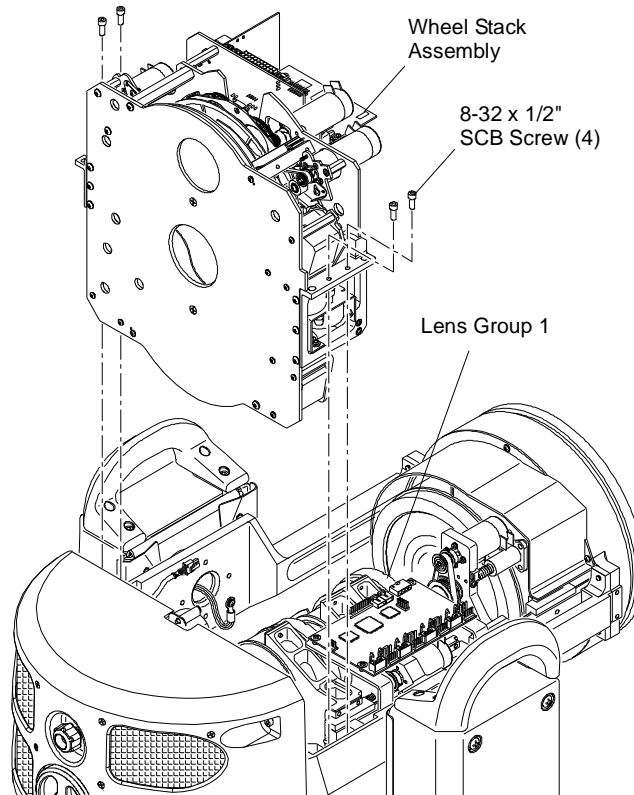

Figure 3-20: Removing Wheel Stack Assembly
- Step 5. At Wheel Stack Assembly, remove four 8-32 x 1/2" socket head screws (**Figure 3-20**).